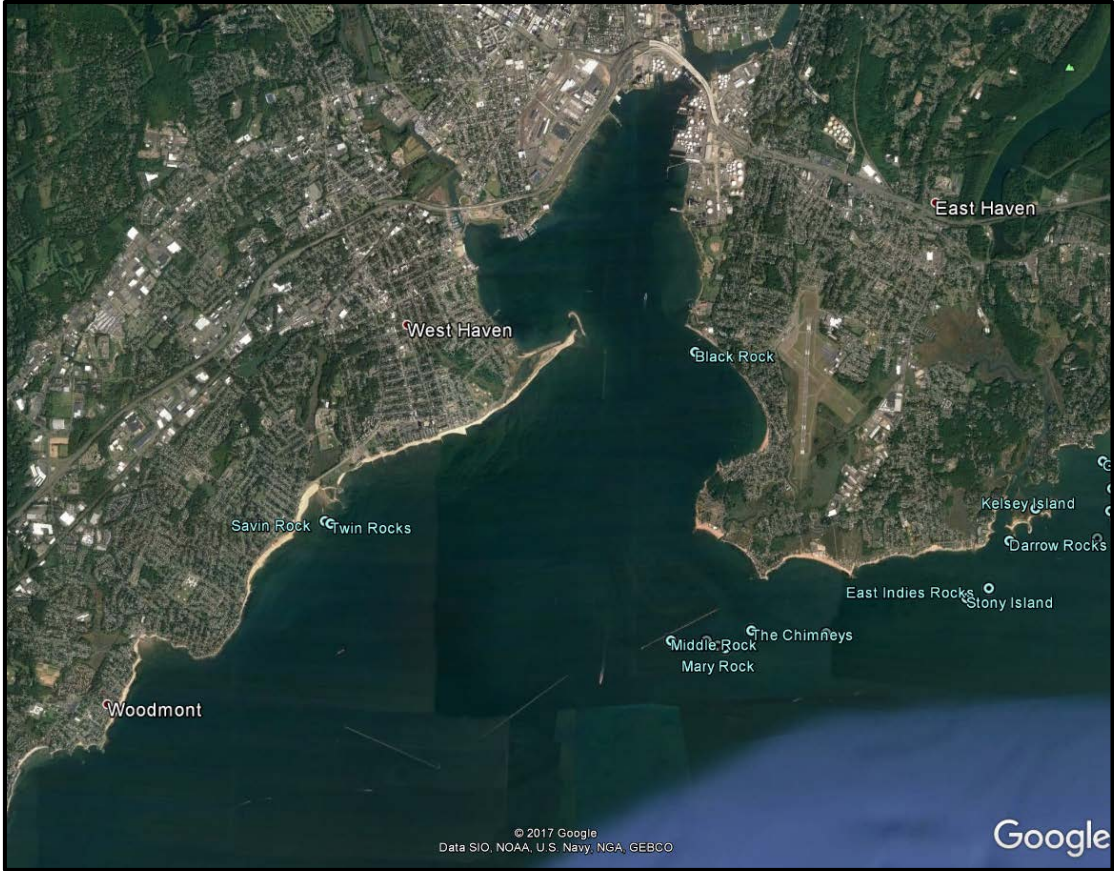
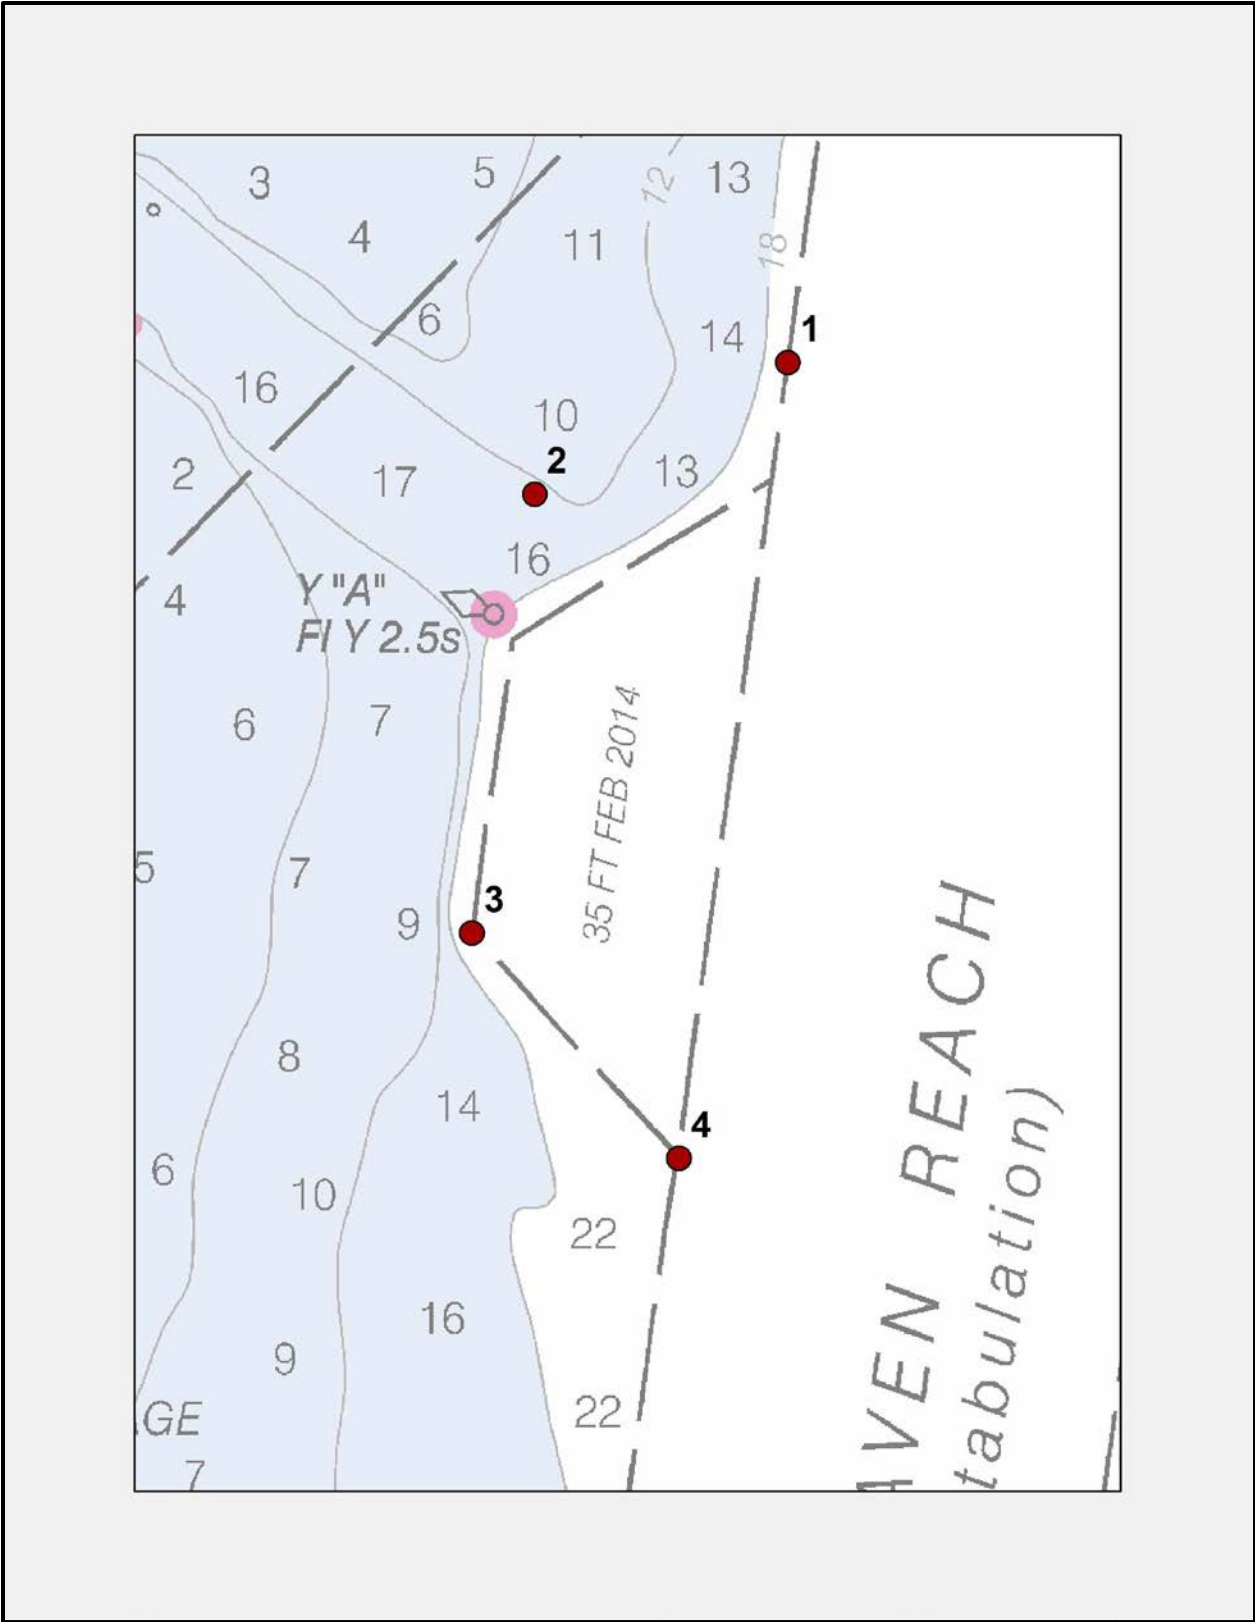

Figure 1. Location Map
Figure 5. Proposed enlargement of the turning basin
New Haven Harbor (NHH) is a Federal Navigation Project on the northern side of Long Island Sound (LIS) (Figure 1). It is the largest deep draft port in Connecticut and the highest volume port on LIS. The NHH has 6 terminals and 12 berths with over 6,000 feet of quay length. Deep draft vessel traffic includes tankers and bulker carriers. The authorized depth for the channel and the existing turning basin is -35 feet at mean lower low water (MLLW). The project includes three offshore stone breakwaters at the entrance to the harbor. The entrance channel is 500 feet wide and the channel in the interior of New Haven Harbor is 400-feet-wide widening to 800 feet along the terminal to provide a maneuvering area. The draft plan prior to the FLSSP ship simulations was channel width of 600 feet in the entrance channel in LIS, and 700 feet at the breakwater bend tapering down to the 500 foot width in the inner harbor and includes the widening to 800 feet along the terminals (Figures 1 and 2). The proposed bend widening prior to ship simulations is illustrated in Figure 3. The proposed depths are between 37 feet and 42 feet MLLW.
In the initial plan the turning basin in the upper section of the harbor had a proposed new location north of the existing turning basin (see Figure 1 above). After some preliminary simulation runs and discussions with the pilots, it was determined that with a small enlargement the present-day existing turning basin location better suited the ship maneuvering than relocating the turning basin as originally proposed. The enlargement of the existing turning basin would involve moving the northern angled line as shown by points 1 and 2 in Figure 5.
g. The Turning Basin location indicated as the most practicable by the FLSSP is the (Existing Basin location or the Head of Harbor location) with the modification shown in Figure 5.
- d. Turning Basin Location – Existing Basin with modification (see Figure 5)